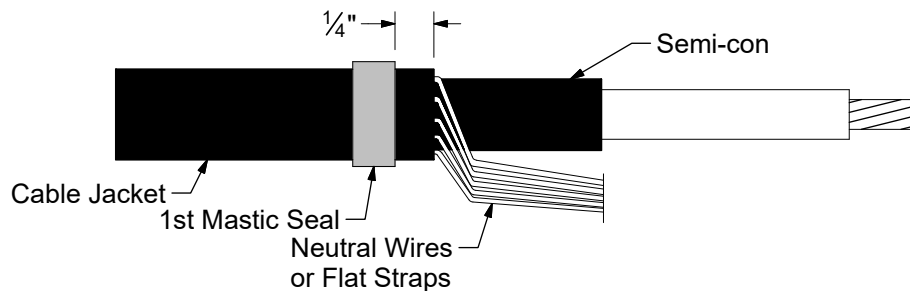

Figure 2
3. Select one of the two mastic strips from the kit and remove white release liners. Using light tension apply a single wrap of mastic around the cable jacket 1/4" from the cut edge. Cut off excess mastic. See Figure 2.